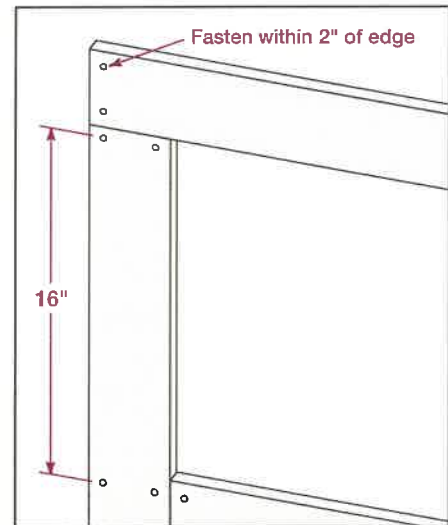

Fig. 4
- When installing TruExterior Trim, allow the top trim pieces to extend to the edges of the vertical trim pieces. The bottom trim should fit between the two vertical side pieces **(Fig. 4)**
- Nail the trim pieces in place within 2 inches of the edge of the trim piece using approved fasteners **(Fig. 4)**